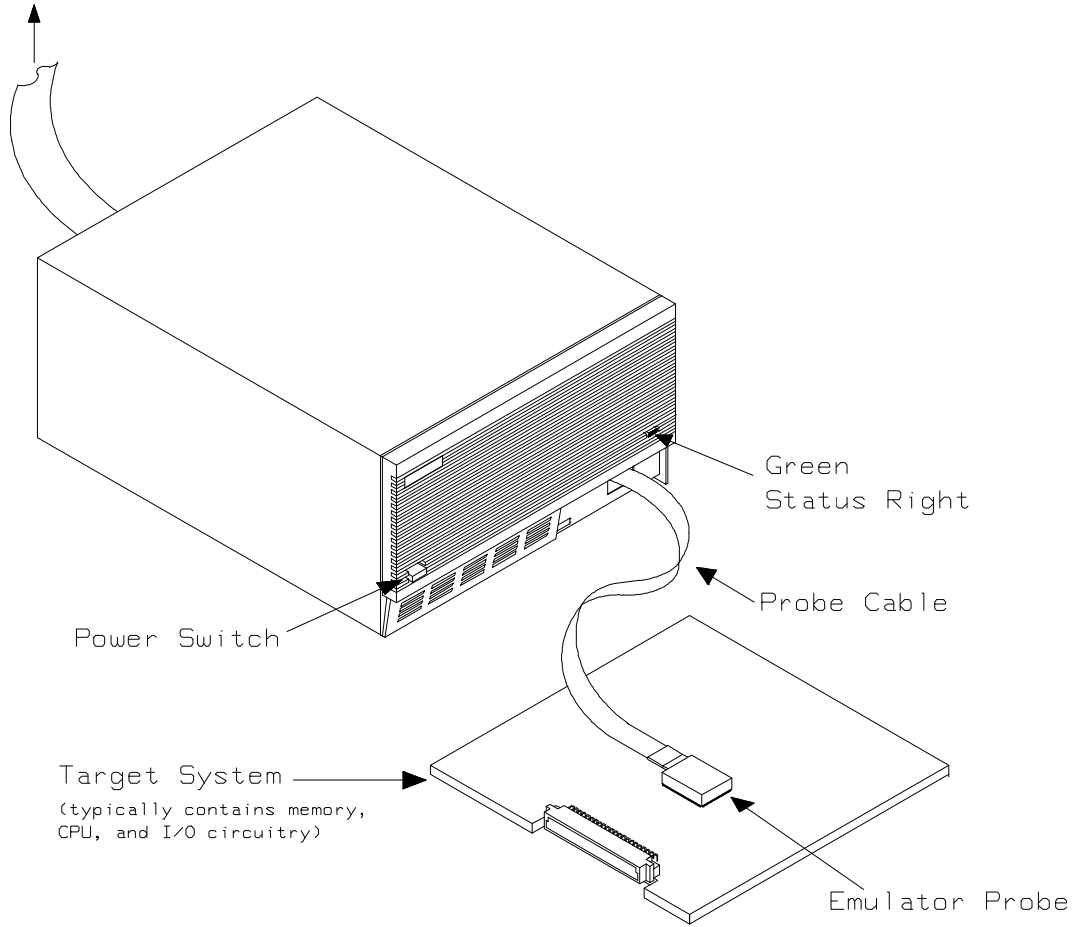

Figure 1-1. HP 64756/7 Emulator for uPD70136/70236
- Figure 1-1. HP 64756/7 Emulator for uPD70136/70236 1-2